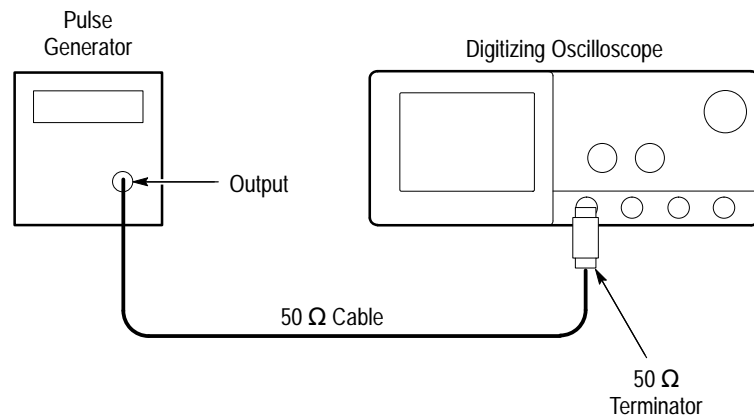

Figure 1–38: Setup for Sync Duty Cycle Test
- Connect the pulse generator through a 50 Ω cable and a 50 Ω terminator to the oscilloscope CH1 input. See Figure 1–38.
- Turn the pulse generator **OUTPUT (VOLTS)** control until the signal on the oscilloscope shows a one division negative going pulse. See Figure 1–39.